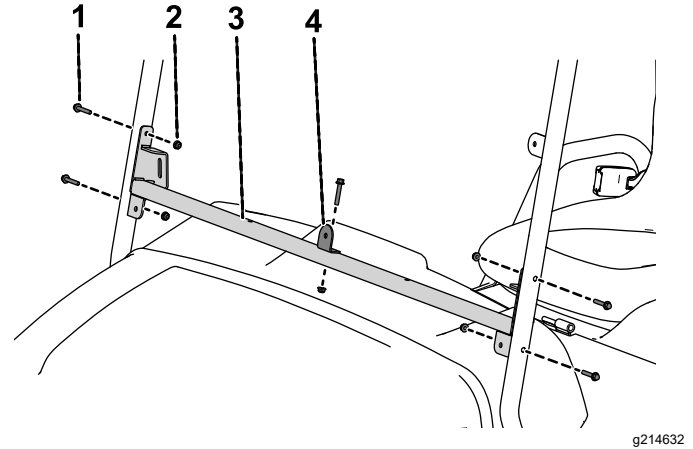

Figure 61
1. Use 1 hex-head flange bolt (1/4 x 1-1/2 inches) and 1 nut (1/4 inch) to secure the windshield bracket to the windshield support assembly (Figure 61).
2. Use 4 hex-head flange bolts (1/4 x 1-1/2 inches) and 4 nuts (1/4 inch) to secure the windshield support assembly to the right and left windshield supports (Figure 61).